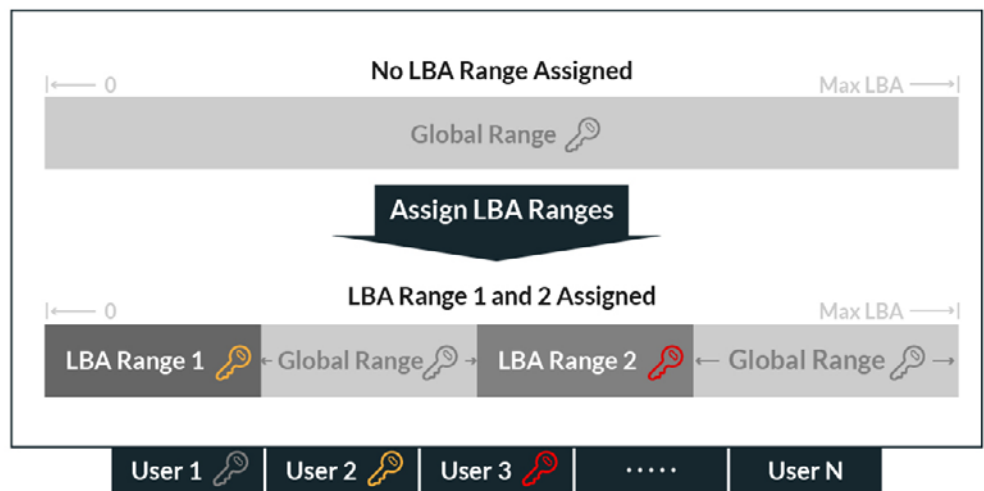

Figure 5: LBA Range Operation
2. Key A is then changed to Key B using the ATA Cryptographic Erase command. At this time, the user is only able to read data as a random string of alphanumeric (See figure 5).
OPAL also allows for the partition of access control to read/write/erase independent LBA ranges for individual users (see figure 5). “Global Range” is the default settings that encompass the whole user data area. In the figure below, the drive has been altered such that LBA Range 1 and 2 can only be accessed by user 2 and 3 respectively.